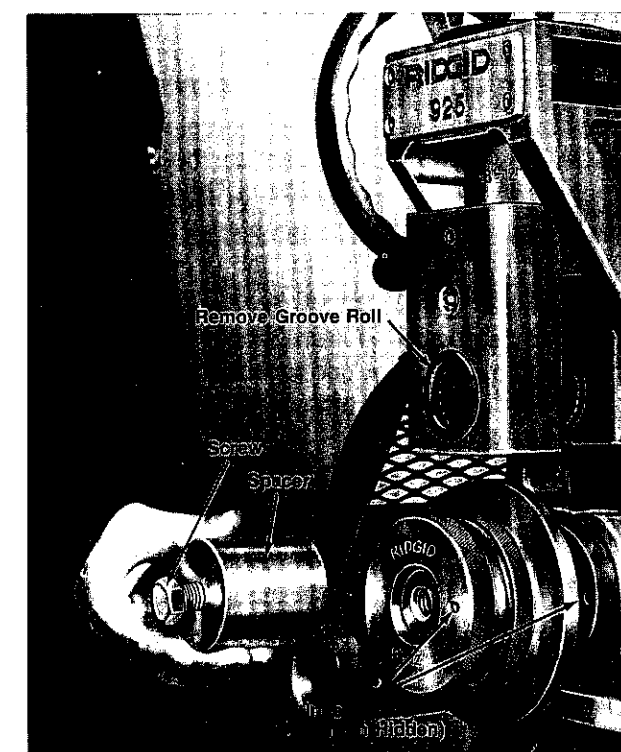

Figure 31. Installing 8"-12" Drive Roll Adaptor
3. Slide 2½"-6" copper drive roll over the integral 2"-6" drive roll. (Figure 31).